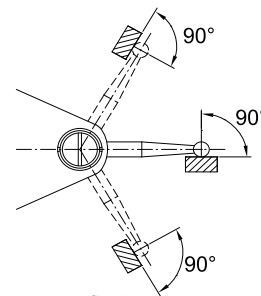
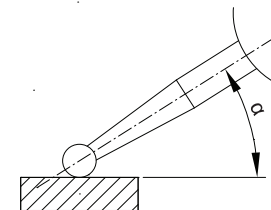

fig.4
fig.5
2. During measurement, styli should be vertical to measuring direction (fig.4). When the styli is at an angle with the measuring direction (fig.5), the following correction should be made.